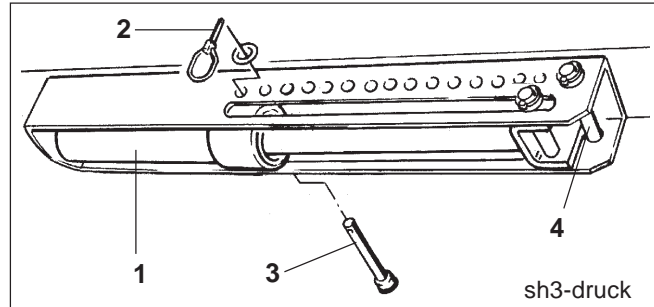

Fig. 23.5
Two pins (Fig. 23.5/3 and Fig. 23.5/4) function as limiter for the hydraulic ram (Fig. 23.5/1) in the setting segment. When the hydraulic ram is without pressure its top rests on the pin (Fig. 23.5/3) and when the hydraulic ram is pressurised it rests on the pin (Fig. 23.5/4).
- Pressurise the hydraulic ram (Fig. 23.5/1).
- Insert pin (Fig. 23.5/3) into one of the holes of the quadrant plate and secure by a clip pin (Fig. 23.5/2).